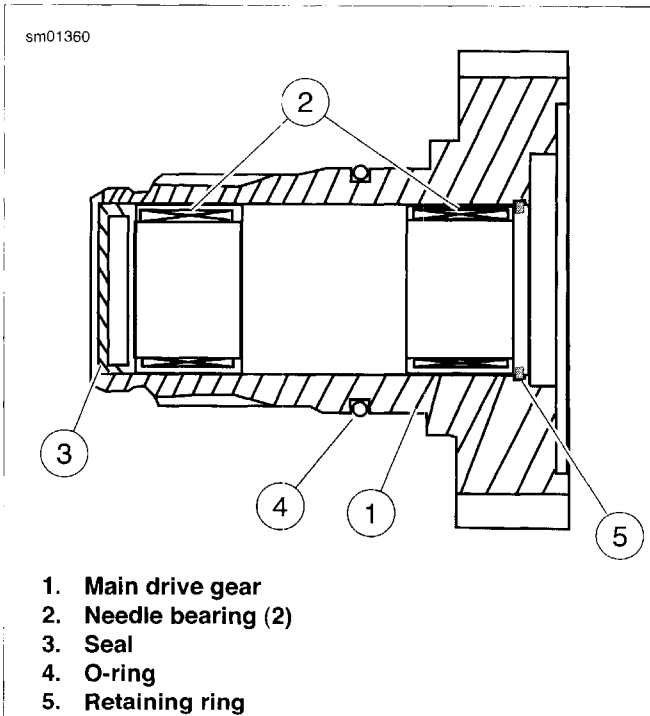

Figure 5-71. Main Drive Gear Assembly (typical)
2. See Figure 5-71. From inside right crankcase, tap out seal (3) at end of main drive gear (1). Discard seal.
- See Figure 5-71. Drive out needle bearings (2) from inside bore of main drive gear (1) using appropriate bearing and bushing puller. Discard needle bearings. Do not reuse bearings after removal from drive gear bore.
- Remove and discard O-ring (4).